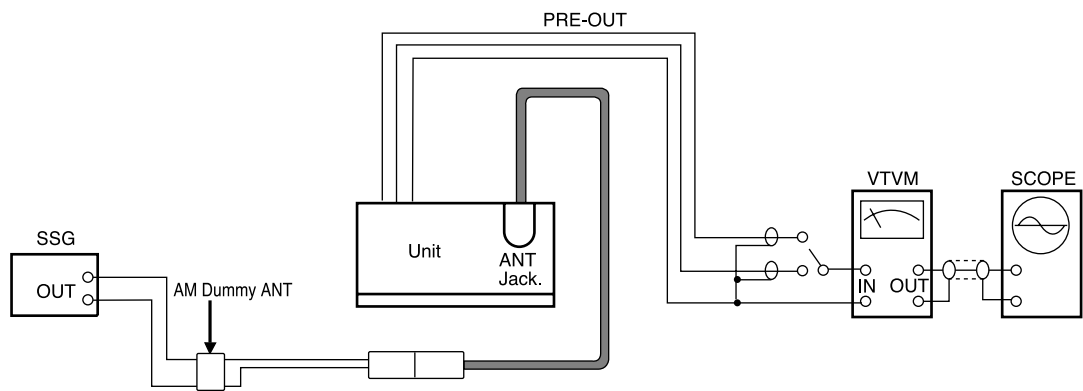

Figure 4.
- 2. Connect as shown in figure 4.